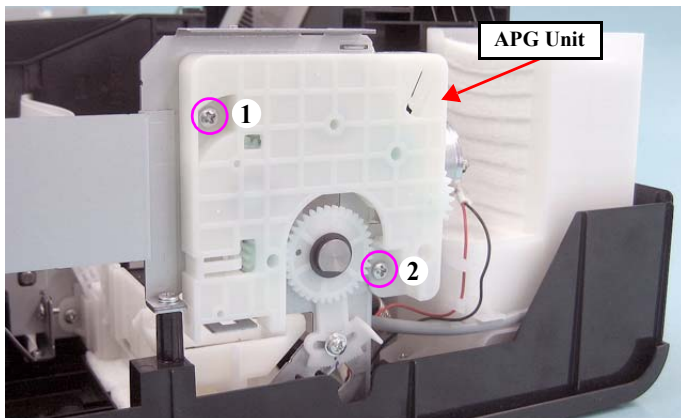

Figure 1-57. Removing the APG Unit
- Tighten the screws in the order given in Fig.1-57 (p.41).